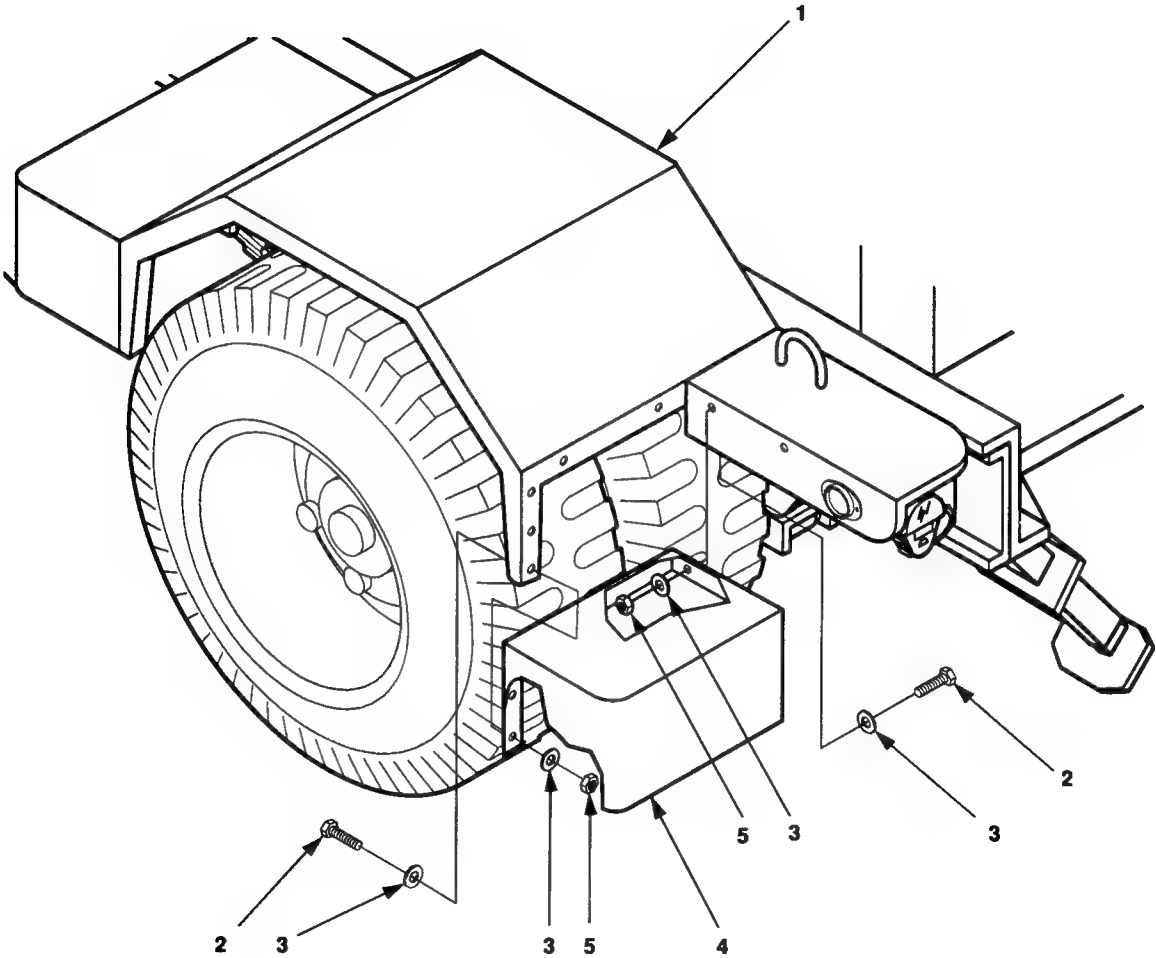

Figure 4-16. Rear Step Replacement.
1. To remove either rear step, remove two self-locking nuts (5, figure 4-16), flat washers (3), and bolts (2) that secure rear step (4) to trailer frame. Discard self-locking nuts.
2. Remove five self-locking nuts (5), flat washers (3), and bolts (2), that secure rear step (4) to fender (I). Discard self-locking nuts.
3. Remove rear step (4) from trailer.